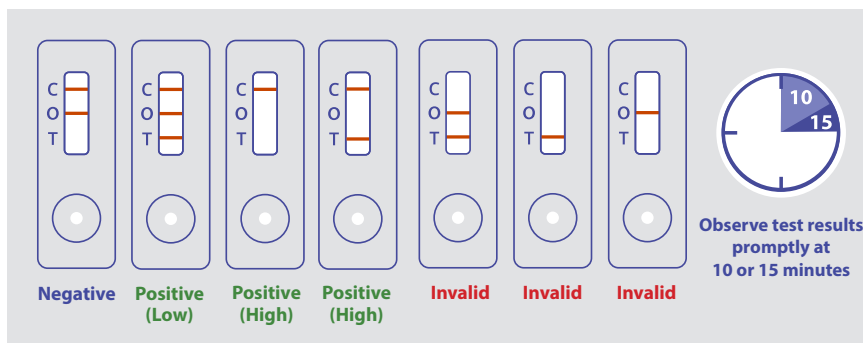

Figure 3. Interpreting Test Outcomes
**9.1.** A negative result is indicated by the development of a strong control line (C) and overload (O) line. An example of a negative result is depicted in **Figure 3** labeled **“Negative”**.
**9.2.** Positive test results at lower analyte concentrations will result in the appearance of the test line (T) in addition to the overload line (O) and/or the control line (C). At higher analyte concentrations, the test line (T) and/or the overload line (O) will disappear, leaving only the appearance of the control line (C). Thus at high analyte concentrations, the disappearance of the overload line (O) indicates that the sample is positive for the analyte regardless of the appearance of the test line (T). Examples of positive results are depicted in **Figure 3** labeled **“Positive”**.